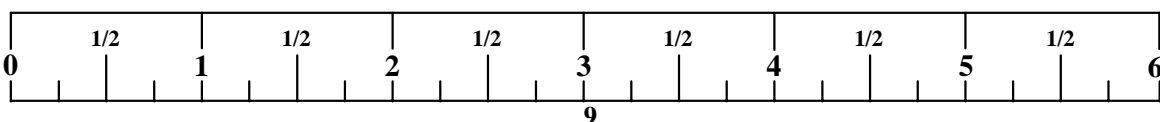

**FIGURE 6**
- **SECURELY** assemble the TOP BOOM (2) to the UPRIGHT (1) using one 1/2 X 2-3/4" BOLT (23), one 1/2 X 3" BOLT (24), two 1/2" WASHERS (25), and one 1/2" LOCK NUT (26). See FIGURE 6.
- **SECURELY** assemble the TOP BOOM (2) to the top of the POWER RACK using two 3/8 X 3" BOLTS (18), four 3/8" WASHERS (20), and two 3/8" LOCK NUTS (21). See FIGURE 6.